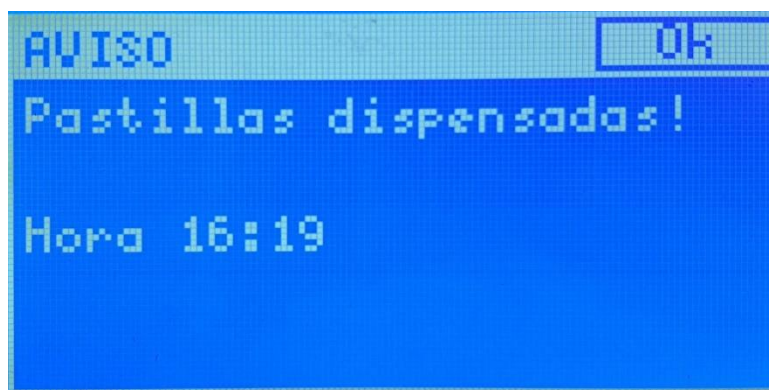

Figure 20- Notice on screen
- A notice will be displayed on the screen (Figure 20) with the time the pills were dispensed